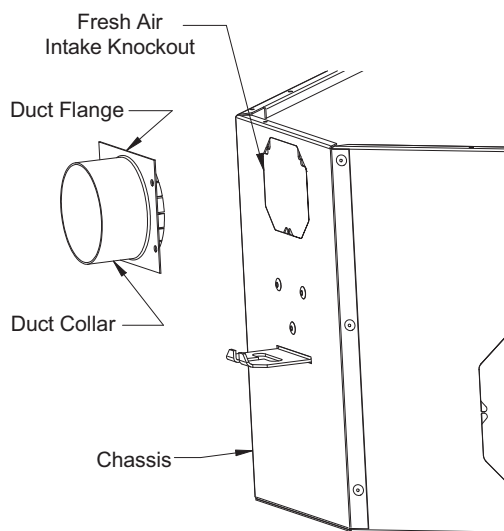

Fig. 50 — Exploded View of Fresh Kit Assembly
11. Mate and fasten the duct collar and duct collar flange assembly to the unit chassis around the fresh air intake opening using four (4) No. 6 x 1/2 in. self tapping screws (not included in the kit). The duct collar tabs will be secured in between the flange and the unit chassis. See Fig. 50 and 51.